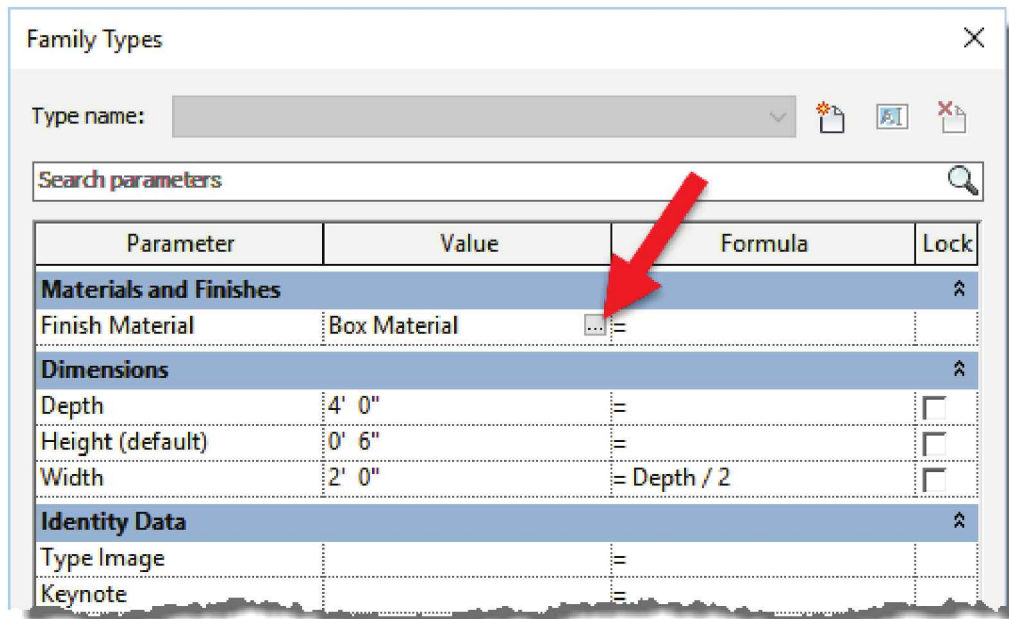

FIGURE 18-4.17 Setting material for new parameter
33. In the *Family Types* dialog, change the “value” for **Finish Material** to **Box Material**. (See Figure 18-4.17.)